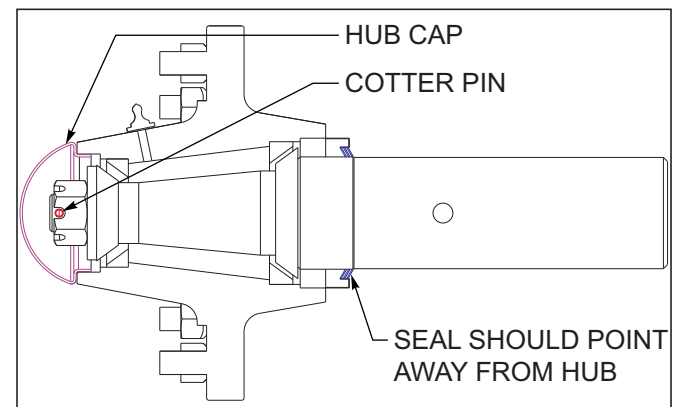

Figure 4-9: Triple Lip-Seal
The triple-lip seals should point away from the hub to keep contaminants out and allow grease to pass See Figures 4-9.
11. Install a new cotter pin and replace the hub cap. See Figures 4-9.